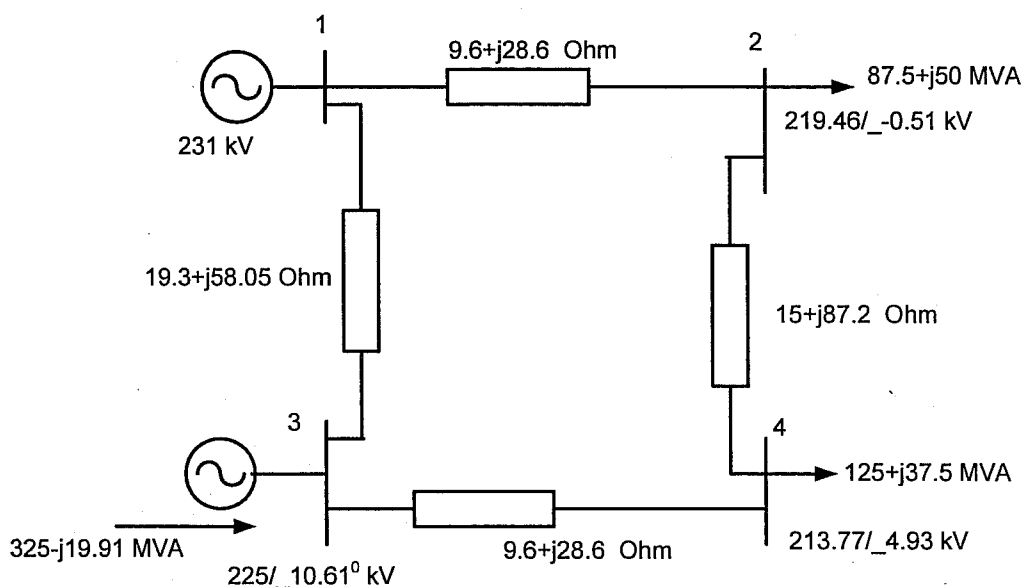

Figure Q5
- Consider the power system shown in figure Q5. Voltages at buses are calculated using Newton-Raphson method. Voltage, power and line impedance are as indicated in the figure